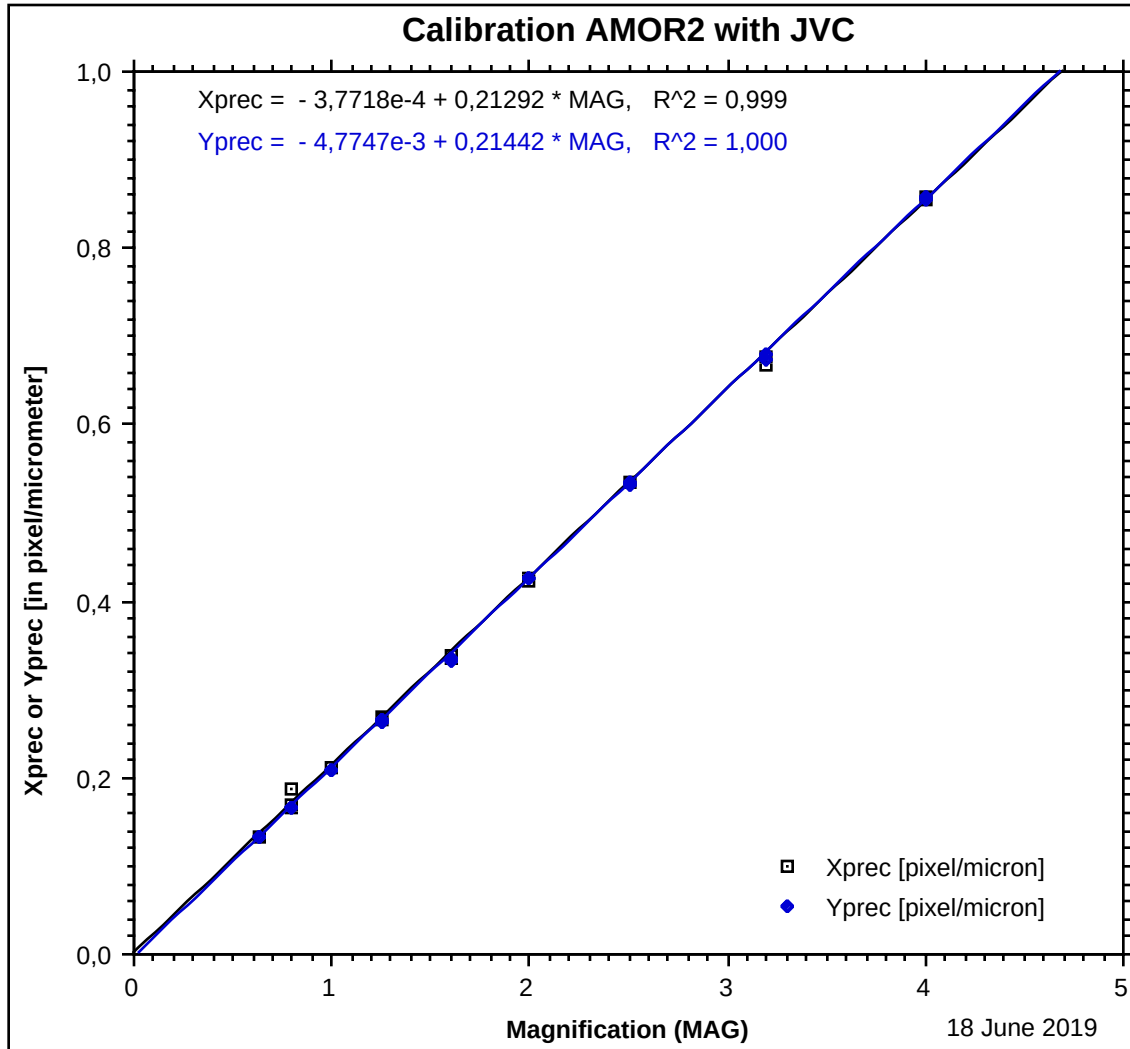

Figure 1: Calibration curves for Xprec and Yprec for system AMOR2 with digital JVC camera.
1.) There is a very strong linear relationship for Xprec and Yprec against the magnification (Figure 1). The following two equations are implemented in program Trace_AMOR3_batch.out